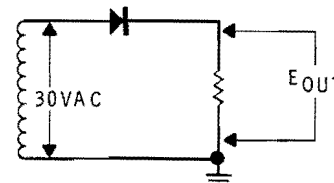

Figure 4-63
1. Refer to Figure 4-63.  $E_{out}$  will have an average value of:
- A. Figure 4-63.